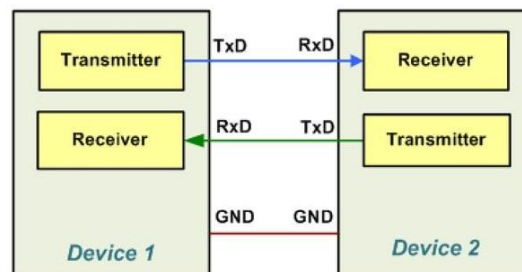

Figure 1
**Universal Asynchronous Receiver/Transmitter** or **UART** for short represents the hardware circuitry (module) being used for the **serial communication**. IO pins dedicated to the UART serial communication module as shown in **Figure 1** are TX & RX.